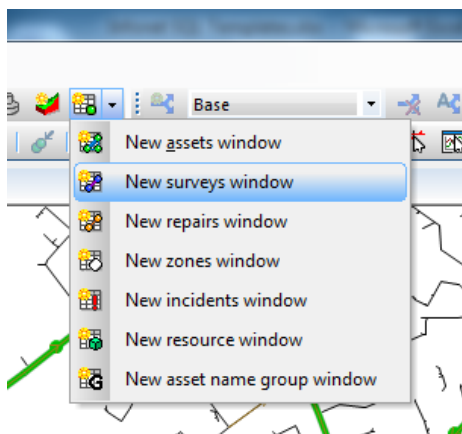

Figure 8 - Infonet Screenshot 3
9. Hold the control key and select grid view 'New Surveys Window' to check that the correct assets have been selected. See Figure 8.